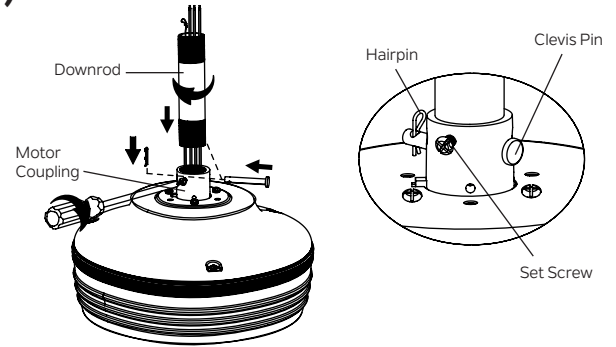

Fig. 8
**Step 4.** Carefully feed fan wires and safety cable up through the downrod. Thread the downrod onto the motor coupling until the clevis pin holes are aligned. Next, replace the clevis pin and hairpin, then tighten both set screws. (Fig. 8)